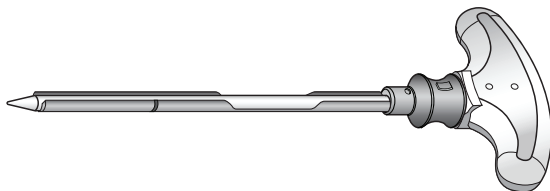
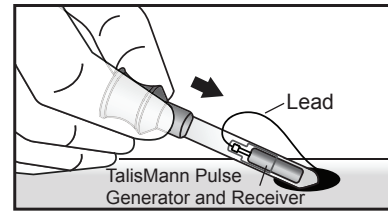

Figure 19: Assembled Pocketing Needle and Stylet.
Figure 20: Insert the TalisMann Pulse Generator and Receiver into the Pocketing Needle.
5. Assemble the Pocketing Stylet and Pocketing Needle. See Figure 19. Insert the combined Pocketing Needle assembled with the Pocketing Stylet subcutaneously into the hypodermis through the same incision that was made to implant the StimRouter Lead. The Pocketing Needle and Stylet Assembly should be at an angle approximately parallel to the skin surface in the direction of the desired location for the TalisMann Pulse Generator and Receiver connected to the StimRouter Lead. The Pocketing Needle and Pocketing Stylet Assembly should be along a subcutaneous path, until the tip at the desired subcutaneous location. See Figure 20.